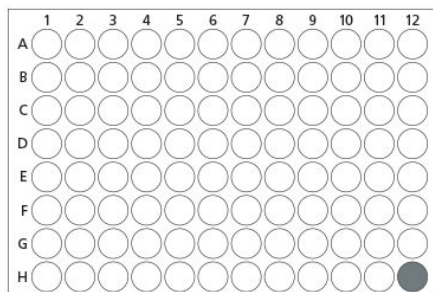

Figure 1. 96-Well Plate Diagram Indicating Well Containing TBP qPCR Control Template
- 5 μ L **TBP qPCR Control Template** + 5 μ L **qPCR Master Mix** in well H12 (see Figure 1)